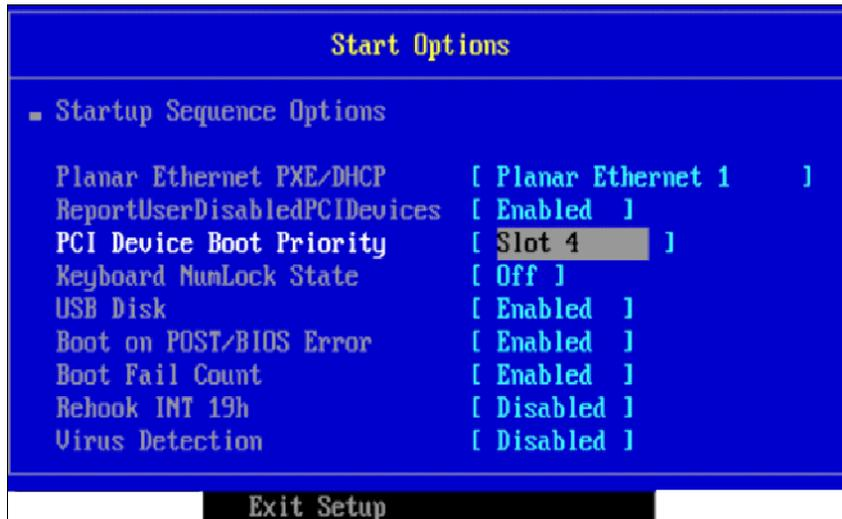

Figure 18-35 Selecting PCI Device Boot Priority in Start Options panel
4. Scroll to the PCI Device Boot Priority option and select the slot in which the HBA is installed, as shown in Figure 18-35.